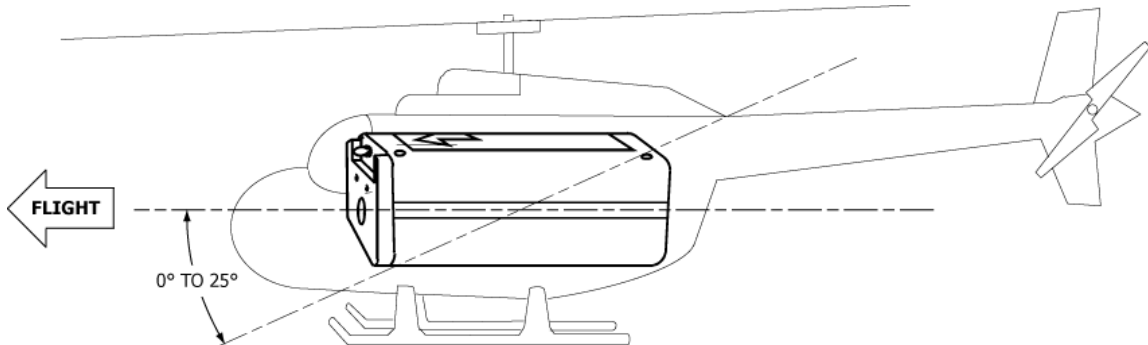

Figure 27 Orientation of ELT for Helicopter Installations
- 1) Mount the C406-N HM ELT parallel to the waterline of the fuselage, along the longitudinal axis, with the direction-of-flight arrow on the ELT pointing forward. See Figure 27 Orientation of ELT for Helicopter Installations.